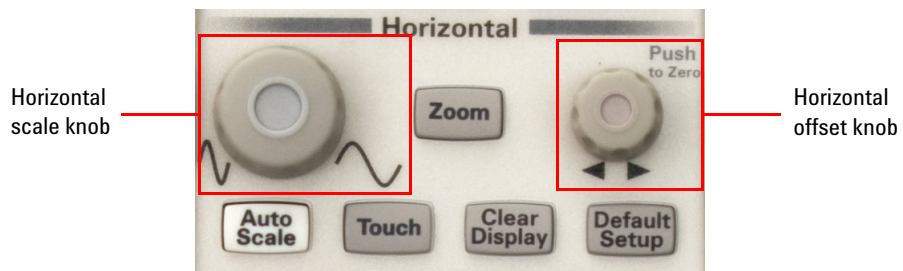

Figure 2-14 Horizontal scale and offset knobs in the Horizontal section
- 1 To adjust the horizontal scale, turn  in the Horizontal section as shown in Figure 2-14.
- 3 To adjust the horizontal offset, turn  in the Horizontal section as shown in Figure 2-14.